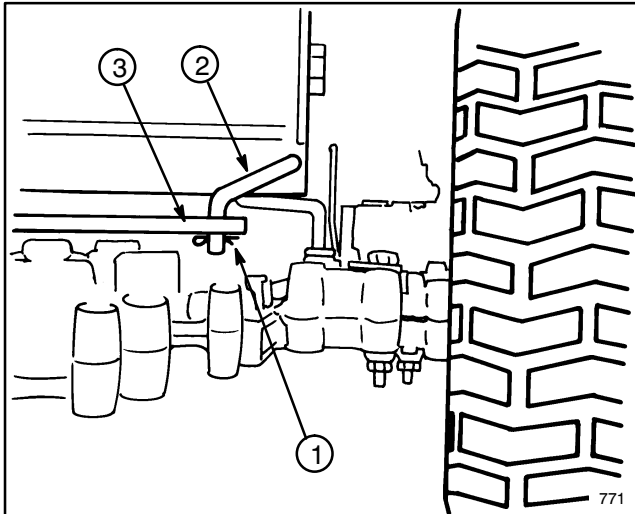

Figure 30
1. Remove cotter pin from rod on right side of transaxle as viewed from the rear of the unit (Fig. 30).
2. Lift rod out of bracket hole (Fig. 30).